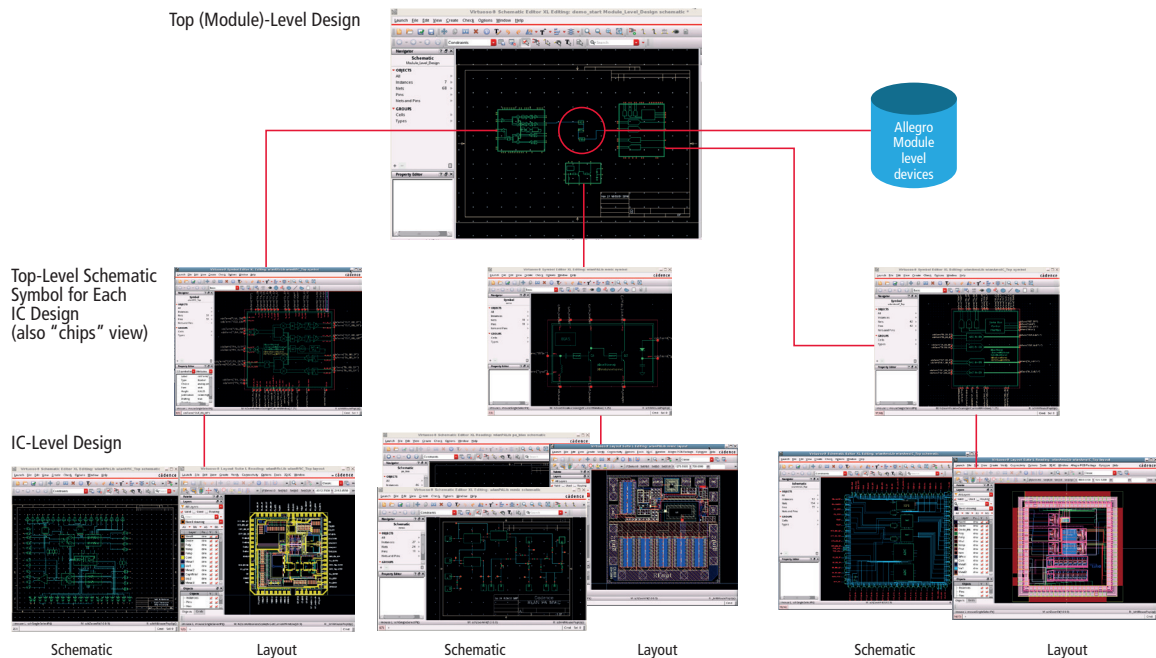

Figure 1: The Virtuoso System Design Platform automates co-design and co-analysis of ICs, packages, and PCBs
In the implementation flow, the Virtuoso System Design Platform (shown in Figure 1) captures and manages system-/package-level devices and connectivity from the top level in the Virtuoso Schematic Editor. In other words, the package-/module-level design can be captured in the same environment many IC designers are already using today to create the schematic for their IC layout. This module-level schematic can be used to accurately perform layout vs. schematic (LVS) checking between the Virtuoso (IC) and Allegro (package/PCB) domains.